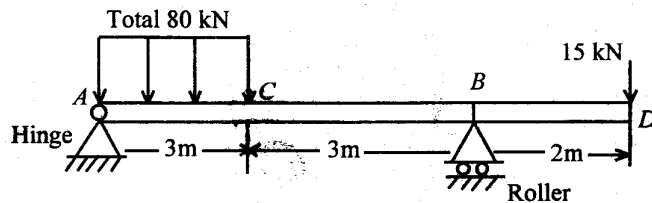

Fig. 2
- (b) Calculate the reactions in the case of the beam shown in Fig. 2. Construct the shearing force and bending moment diagrams. Determine the location of the maximum bending moment, and mark it on each of the diagrams. 12